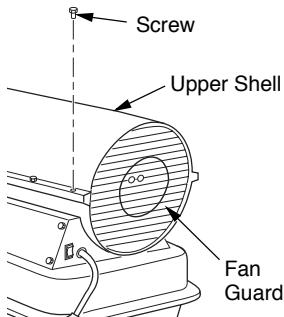

Figure 8 - Upper Shell Removal,
1. Remove side cover (see Figure 17), fan guard, and upper shell (see Figure 8, page 9) screws using 5/16" nut-driver.